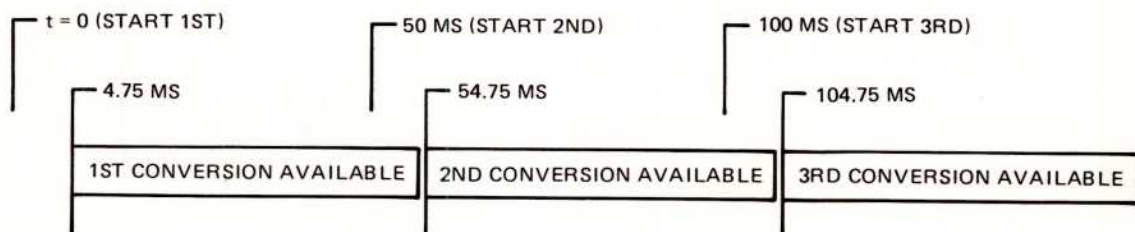

Figure 3-6. 50 Millisecond Pace Rate
(1) The output for a conversion becomes available 4.75 (–0 +.06) ms after the start of conversion and stays available until 4.75 (–0 +.06) ms after the next start of conversion. Conversion starts when **J** is received, the external start jack is used, or the pacer time interval is up and a new conversion is started by the pacer (Figure 3-6).
(2) Once both output bytes have been sent, an attempt to send out another byte will result in the bus handshake not being completed (the 59313A will not set DAV line LO) until more data is ready. This feature can often be used to load the controller memory with samples taken by the 59313A at equal increments of time. The controller simply spends its spare time waiting for the handshake to complete. The controller's data acquisition time must be shorter than the 59313A pacer interval being used.
(3) If, when a new pair of data bytes is ready, neither of the old pair has been sent, then the old are replaced with the new.
(4) If, when a new pair of data bytes is ready, the 1st byte of the old pair has been sent but the 2nd has not, then the new pair will be lost and the 2nd byte stays available until it is sent.